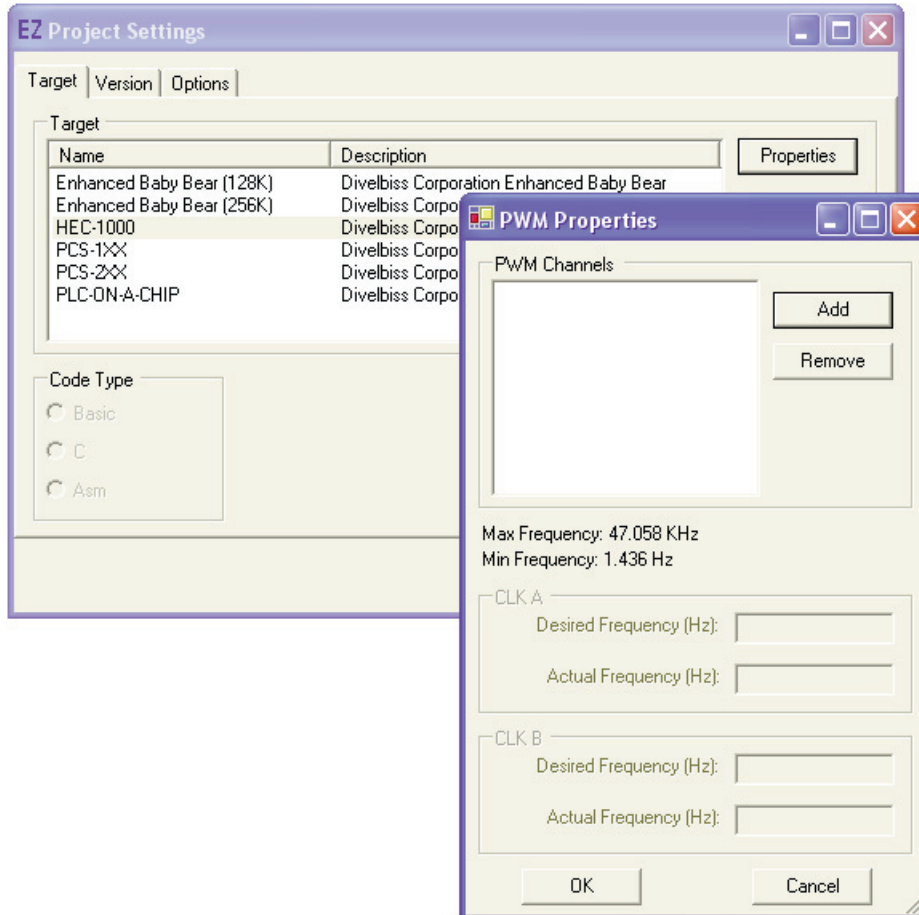

Figure 1.2
4. The *PWM Properties* window will open. See Figure 1.2.